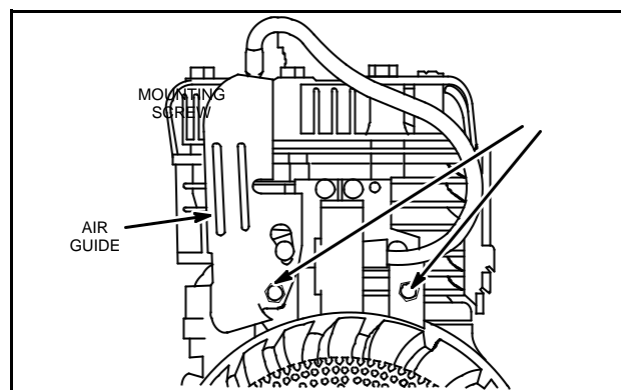

Fig. 101 – INSTALLING IGNITION ARMATURE AND AIR GUIDE
2. Push ignition armature away from flywheel and tighten one screw, Fig. 101.